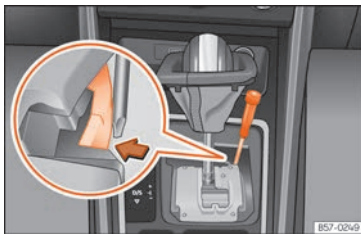

Fig. 91 Selector lever: manual release from position P.
- Using the flat part of a screwdriver, press the yellow tab sideways and keep it pressed down **>>>** **Fig. 91**.